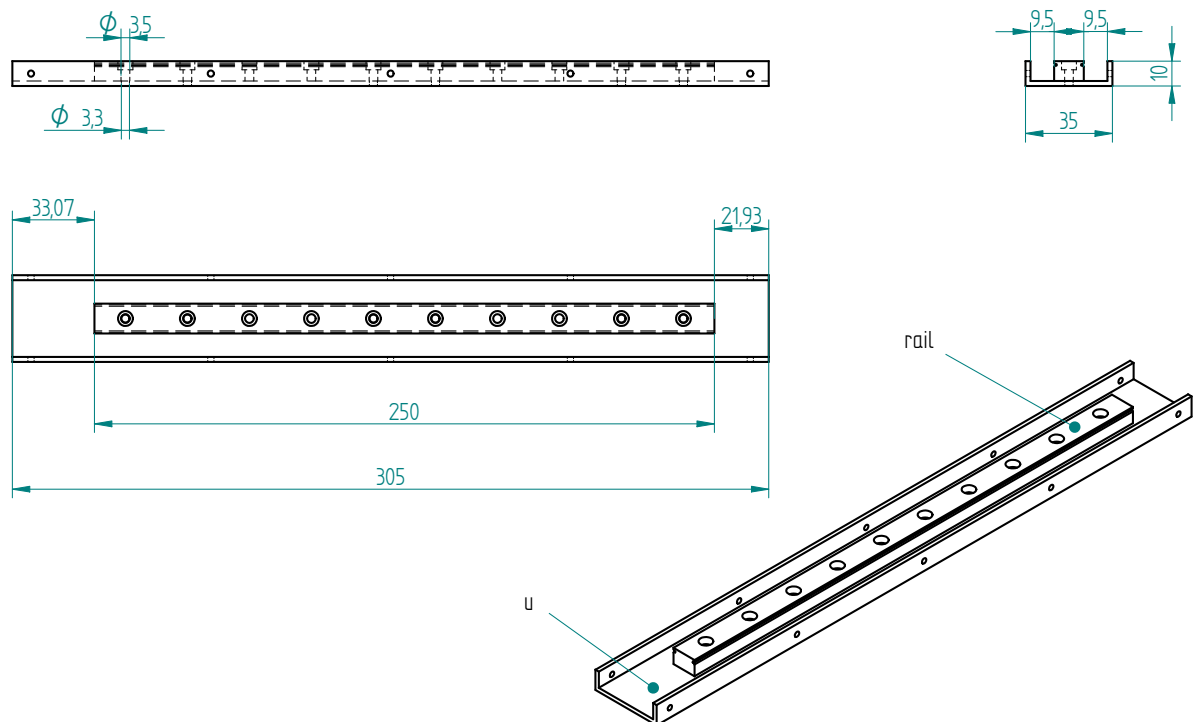

Figure 1.5: Center punch the 3.3 mm hole through the **rail** using a **3.5 mm drill bit**
7. clamp the **rail** in the correct position using a **gauge** (make sure it's centered), see Figure 1.5, page 19 ;